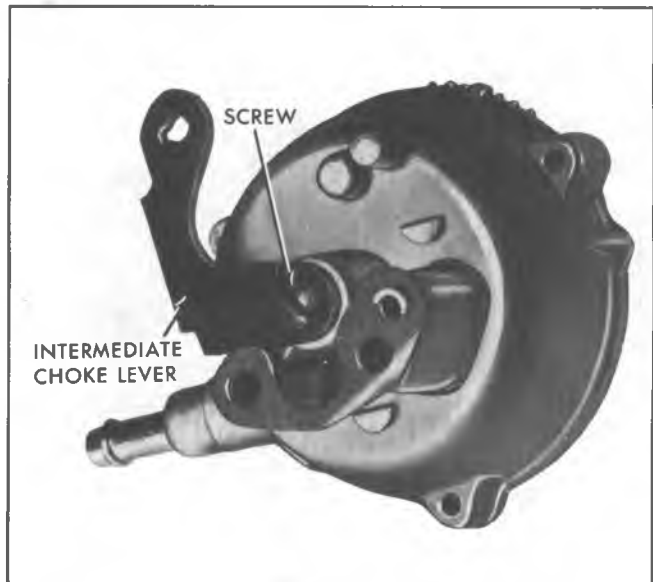

Fig. 9C-Choke Housing
4. Remove screw from end of intermediate choke shaft and remove intermediate choke lever from shaft (Fig. 9C). Remove inner choke coil lever and shaft assembly from choke housing. Remove rubber dust seal from inside choke housing.
3. Install new rubber dust seal into cavity inside choke housing (Fig. 9C). Lip on seal faces towards carburetor after the housing is installed.